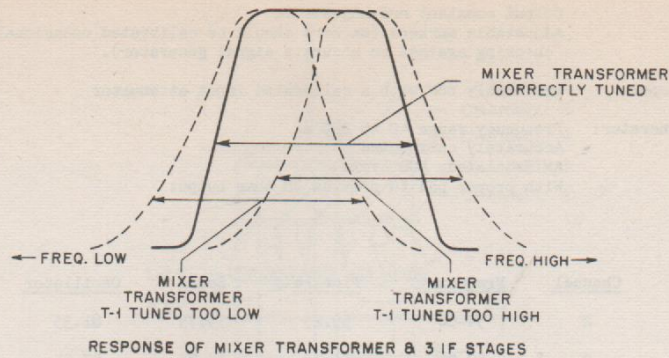

FIGURE 7. MIXER TRANSFORMER TUNING CURVE
4. Through a 10K decoupling resistor, connect the scope between the top of the detector load resistor R-23 (8200) and B-. If a stronger output is required, connect the scope between the picture tube cathode and B-. The curve seen at this position will be of reversed polarity as in Figure 7.
In aligning the three IF coils, each coil is adjusted individually, but when adjusting the primary and secondary of the mixer transformer T-1, the adjustments should be made simultaneously. The important point to keep in mind is to obtain a flat response curve with as much gain as possible. The sides of the curve should be straight and as steep as possible with a sharp break at the base line. Simultaneous adjusting of the primary and secondary is the easiest way to obtain this result. The transformer by itself is, in effect, tuned for the same pass band as the three staggered circuits. See Figure 7.